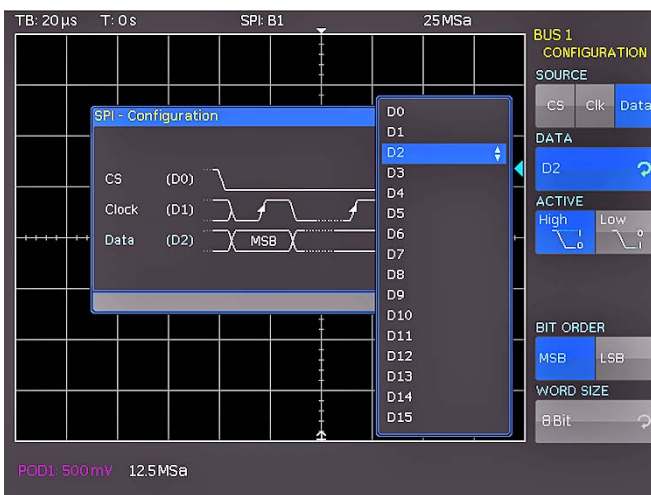

Fig. 13.13: Menu for the definition of a SPI bus
Use the top soft menu key **SOURCE** to select the respective channel for chip select (CS), clock (Clk) and data. Select the respective soft menu key CS, Clk or Data (key will be highlighted in blue) and then use the soft menu key **DATA** and the universal knob to select the respective source channel. For the 2-wire SPI, select the possible **TIME OUT** instead of a chip select source. During the time out, data and clock line are at Low. When the time out has been reached, a new frame begins. If the time intervals between the data packets are shorter than the time out, these packets belong to the same frame. You can select the dead time via universal knob or via numeric input (KEYPAD button). A small window provides information about the current settings (see fig. 13.13).